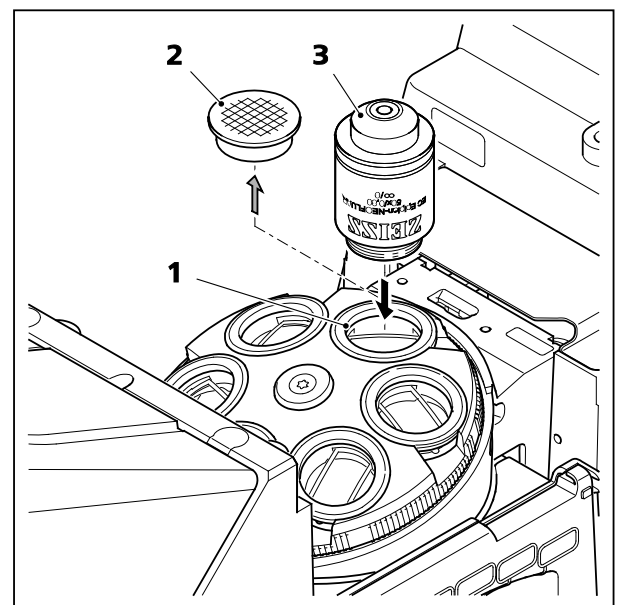

Fig. 19 Screwing in the objectives
- Remove the dust caps (Fig. 19/2) from the openings in the nosepiece.
- Remove the objectives (Fig. 19/3) from the case and screw them into the nosepiece (Fig. 19/1), starting with position 1 (see engraved number), in increasing order of magnification. Ensure that the objectives are screwed in correctly and securely.